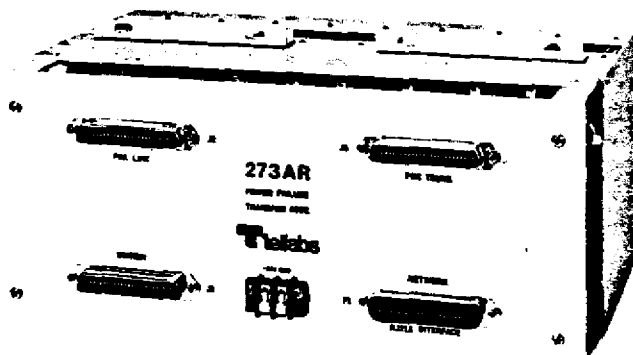

figure 4. Connectorized backplate of 273AR Assembly
3.04 Before beginning the power wiring procedure, ensure that input power is not applied to the 8001 Power Supply. Power must be applied only after all wiring is completed and all modules are properly optioned. Reference to figure 4 will aid in completing this wiring procedure. Wire the Assembly's power connections according to the following list:
3.05 Make the following connections via connectorized cables to the corresponding connectors (reference to figure 4 will aid in completing this procedure):